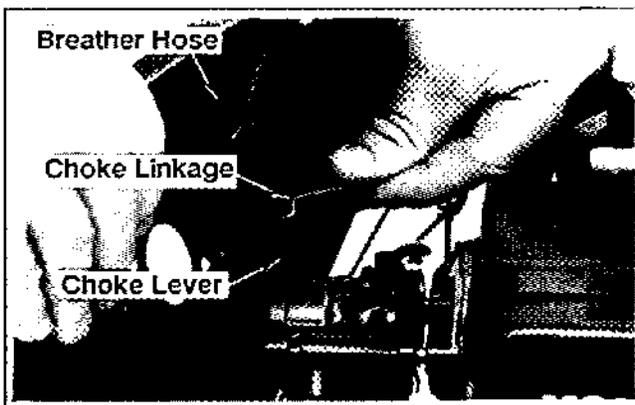

Figure 9-7. Removing Air Cleaner Base.
4. Loosen the hose clamp and disconnect the breather hose from the rocker arm cover. Remove the air cleaner base from the studs and disconnect choke linkage from the carburetor choke lever. See Figure 9-7.